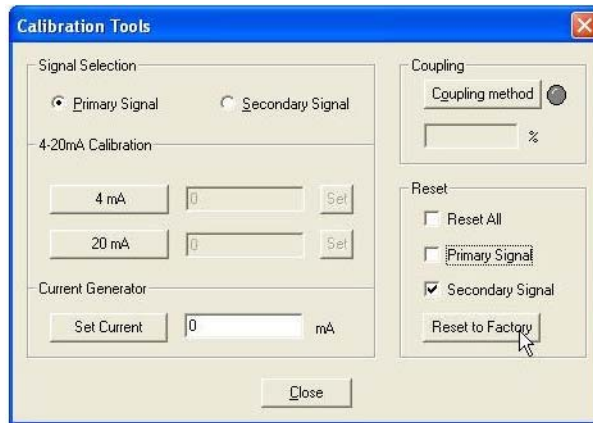

Figure 247 Selecting Reset AO Optional
1. Select the checkbox, located to the left of *AO Optional* (Figure 247).
2. Click **Reset to Factory** (Figure 247).